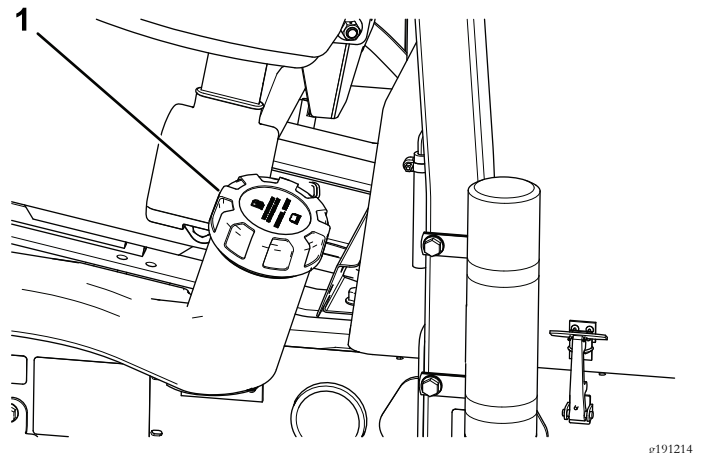

Figure 39
1. Clean the area around the fuel-tank cap (Figure 39).